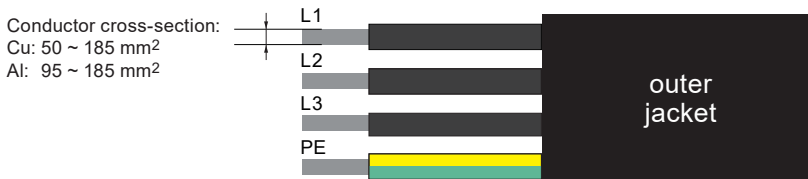

Figure 3-18: Size of AC conductors
- It is important to choose the proper size for AC cable. Refer to **Figure 3-18**.
Refer to **Figure 3-18** in **Section 3.5** for the procedure to prepare AC conductors for connection to the AC terminals.
Ensure the AC conductors used are sized to the correct ampacity per NEC or other local code. Refer to **Figure 3-18**.